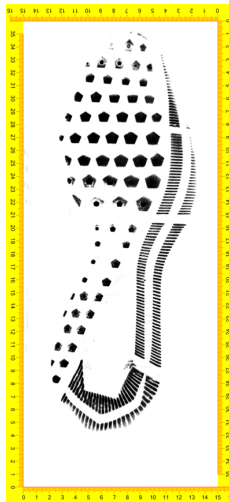

Figure 8: Sample of second step 2D scan
11. For the second image type, have the technician walk across the scanner as if walking down the street. They will step up onto the scanner and then right back off. No attempt should be made to create a perfect print, as this image is meant to capture a realistic step (Figure 8).